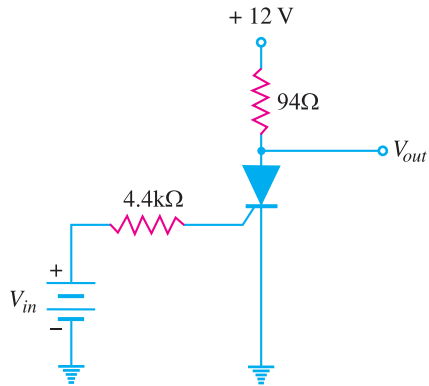

Fig. 20.31
6. In Fig. 20.31, if the trigger current of the SCR is 1.5 mA, what is the input voltage that triggers the SCR? Given $V_T = 0.7V$. [7.3V]